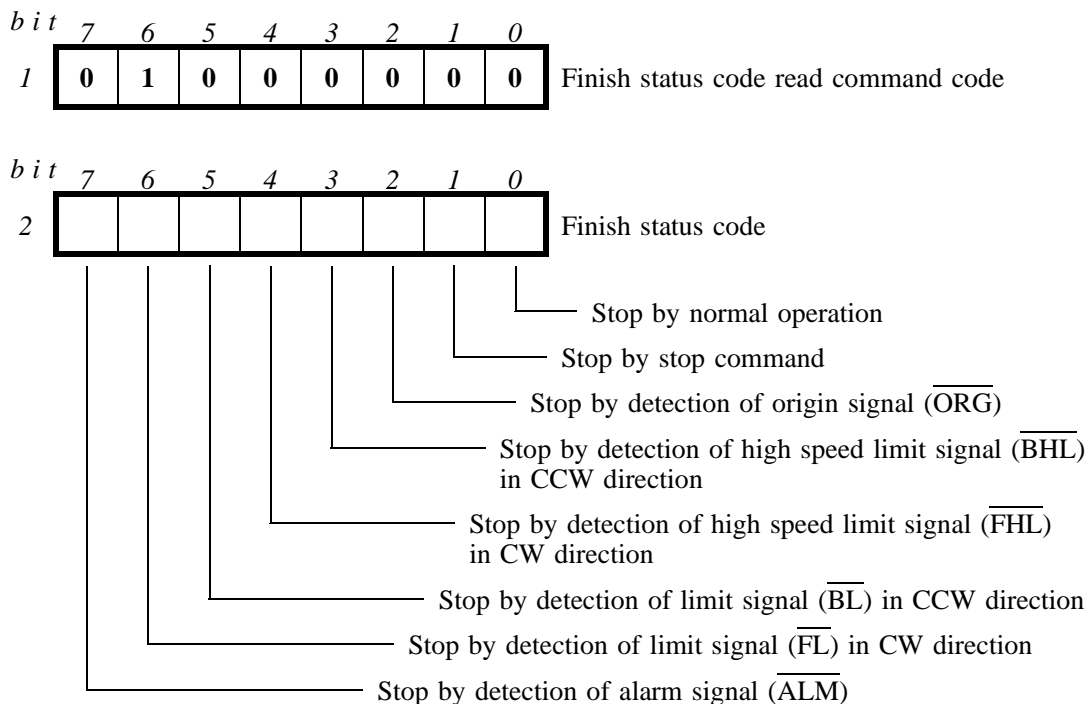

**Fig. 3-40 (Internal register read command bit configuration)**
This command enables examining of the internal conditions of the **PPMC-111** and the conditions of external input signals. As shown in **Fig. 3-40**, there are five (5) internal register read commands. Reading during pulse output is possible.